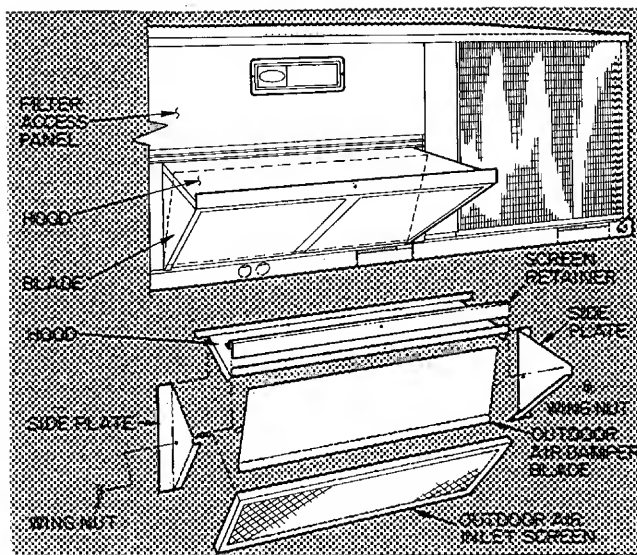

Fig. 9 — Outdoor Air Damper and Hood Installation and Details (004, 005, 006, 007 Units)
48HDT, LDT004, 005, 006 and HD007 — Optional outdoor air damper is shipped with hood broken down inside of unit. See Fig. 9.
3. Using screws provided, assemble sides to the inside of the hood. See Fig. 9.